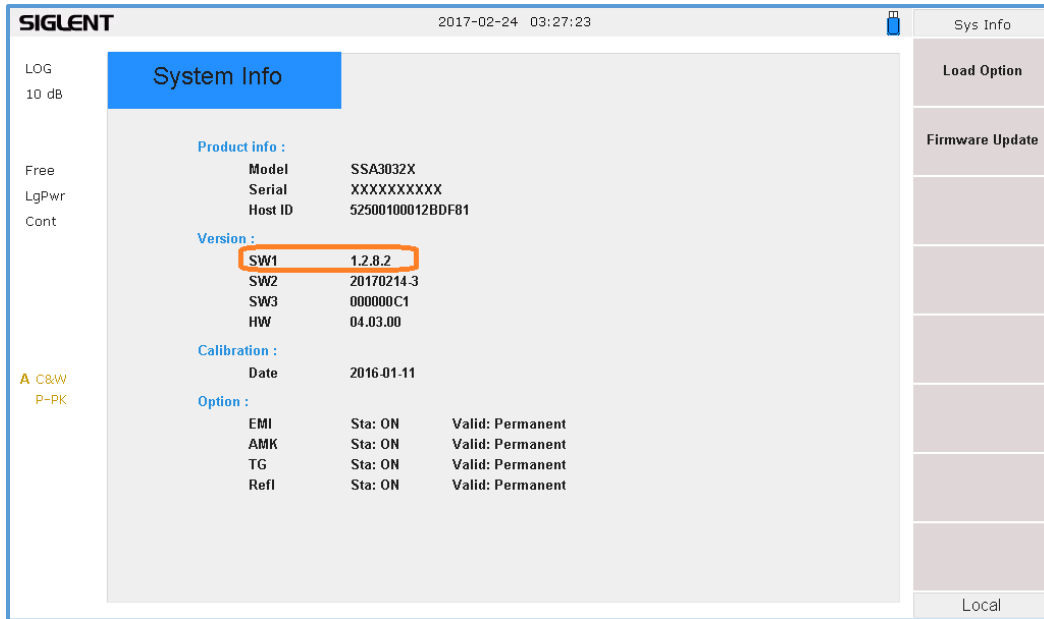

Figure 1: Sample system information page from an SSA3000X.
*Figure 1* below shows a sample system information screen from a SIGLENT SSA3000X analyzer: